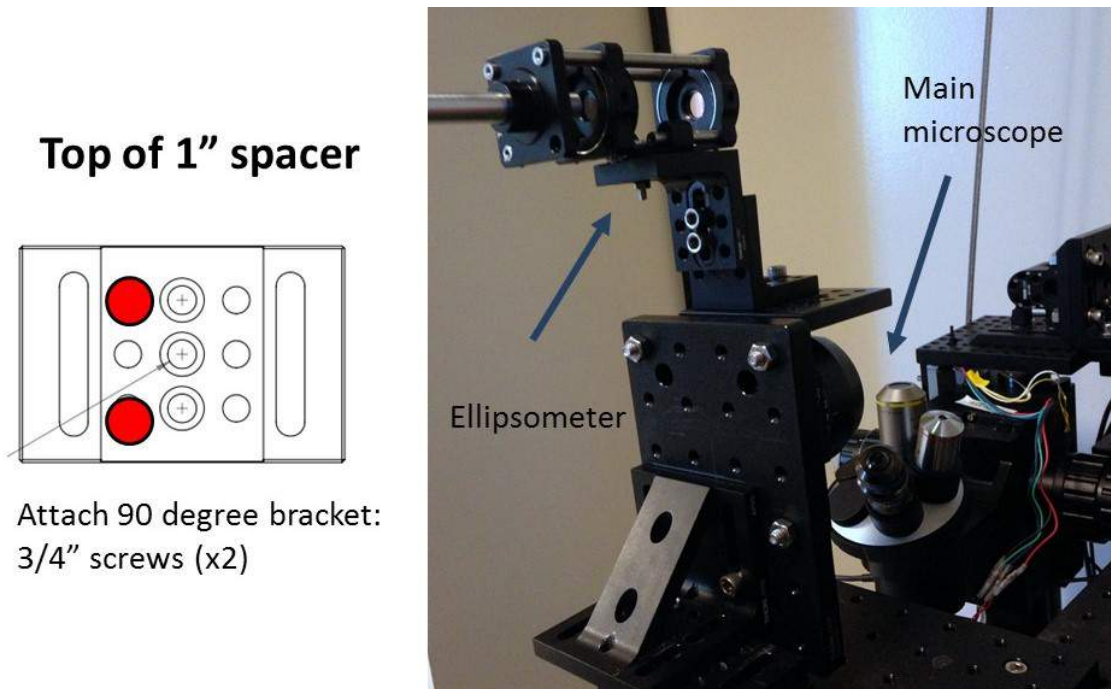

Figure 70: Installed ellipsometer, with the laser cage in the upright position so that it is out of the way while the ellipsometer is not in use
2. Thread 3/4" screws (x2) through the holes on the diagonal support of the 90 degree bracket into the 1" spacer. Refer to Figure 70.